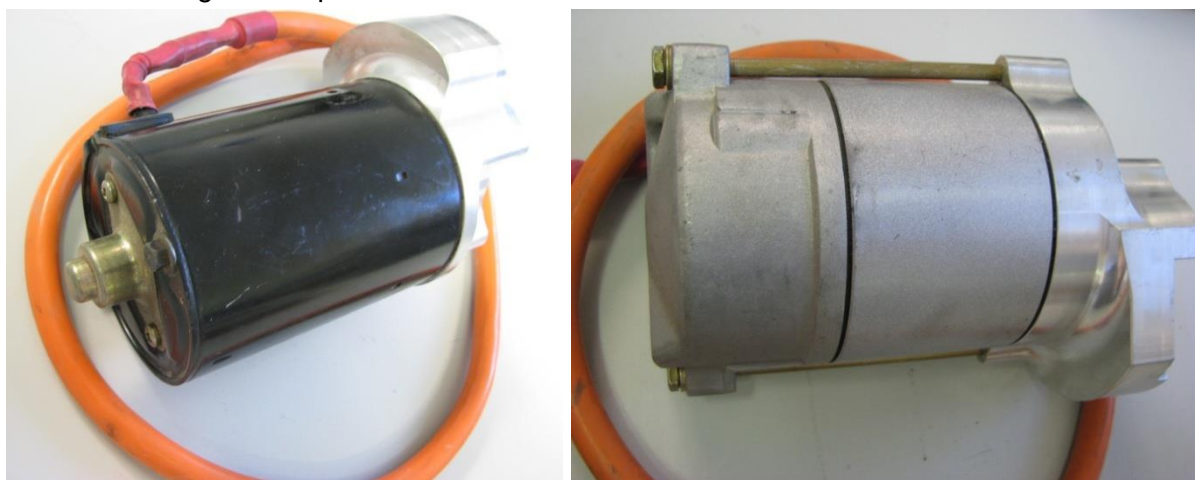

Figure 52 – Starter Motor Disassembly
- Older motors used a different starter motor (on left, Figure 52). These motors are undone via Phillips-head screws through the cap of the motor.